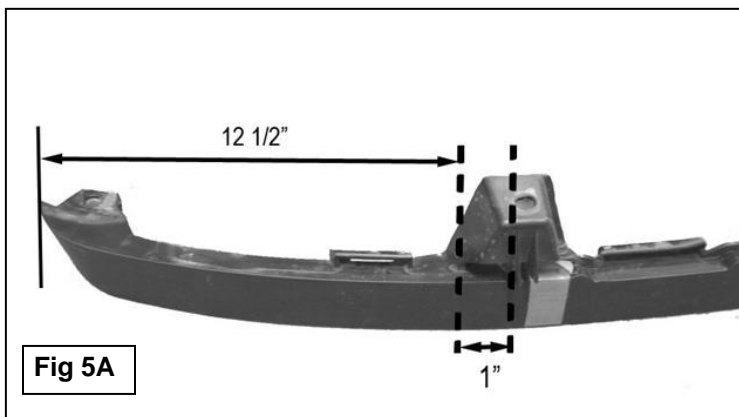

Fig 5A
8. Hold the air dam up in position to determine area to be cut to clear both Brackets, **(Figure 4)**. Measure and mark 12-1/2" from the outside and towards the inside of each end of the plastic lower air dam, **(Figures 5A & 5B)**. **NOTE:** Do not follow the contour of the air dam when measuring. Use a hacksaw to cut out a 1" gap on each marked location on the air dam. **NOTE:** The air dam will now be in (3) pieces. Re-install the air dam using the factory bolt and the clips.